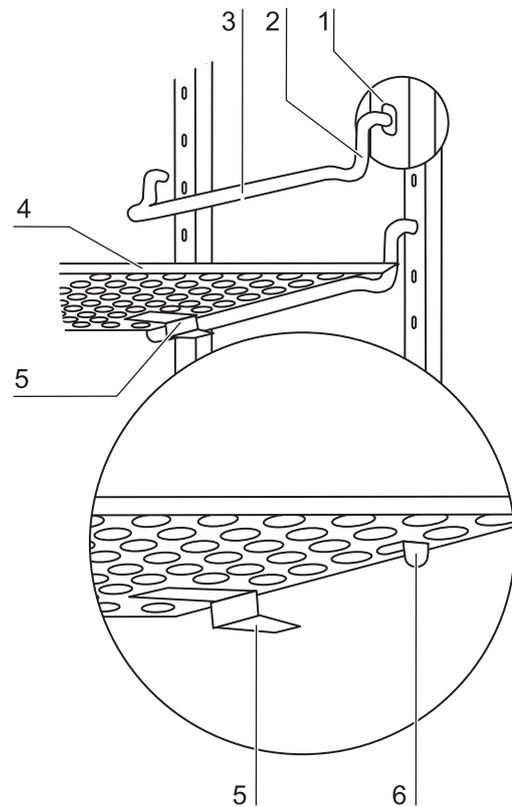

Fig. 19: Shelf support installation
1. **Fig. 19:** Insert the shelf supports [3] into the perforations [1] of the support rail with the bar facing down.